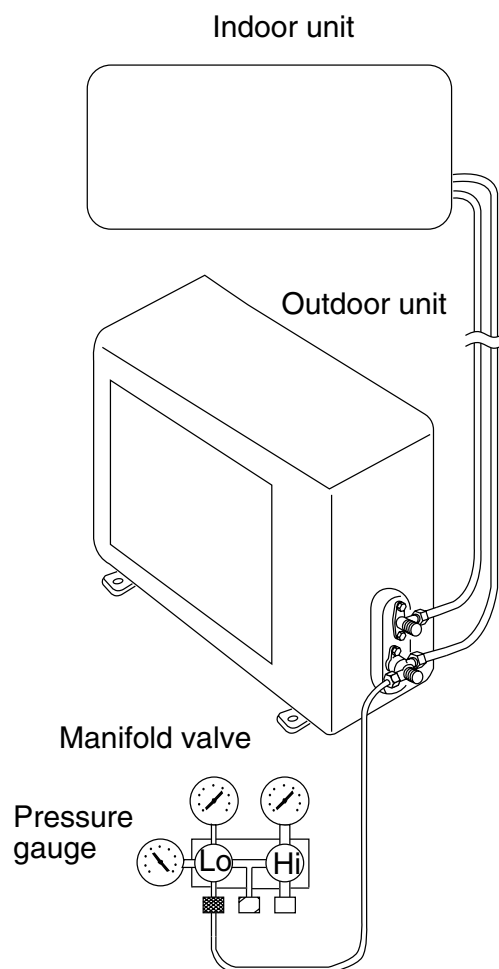

Fig. 39
1. Connect the Lo side charging hose of the manifold valve to the service port on the wide tube service valve. (Fig 39)